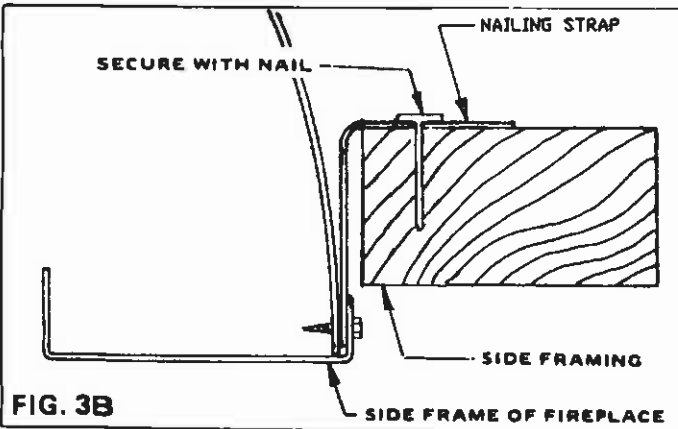

FIG. 3B
STEP 2: Set the fireplace directly in front of this opening and slide the unit back until the mounting flanges touch the side framing. SEE FIG. 3B